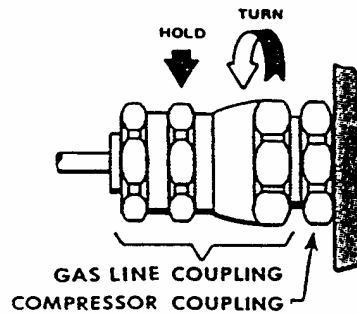

Figure 2 Disconnect Gas Line from Compressor
1. Always use two wrenches. Use one to hold the coupling adapter. Use the second wrench to turn the gas line coupling nut from the compressor coupling. See Figure 2.